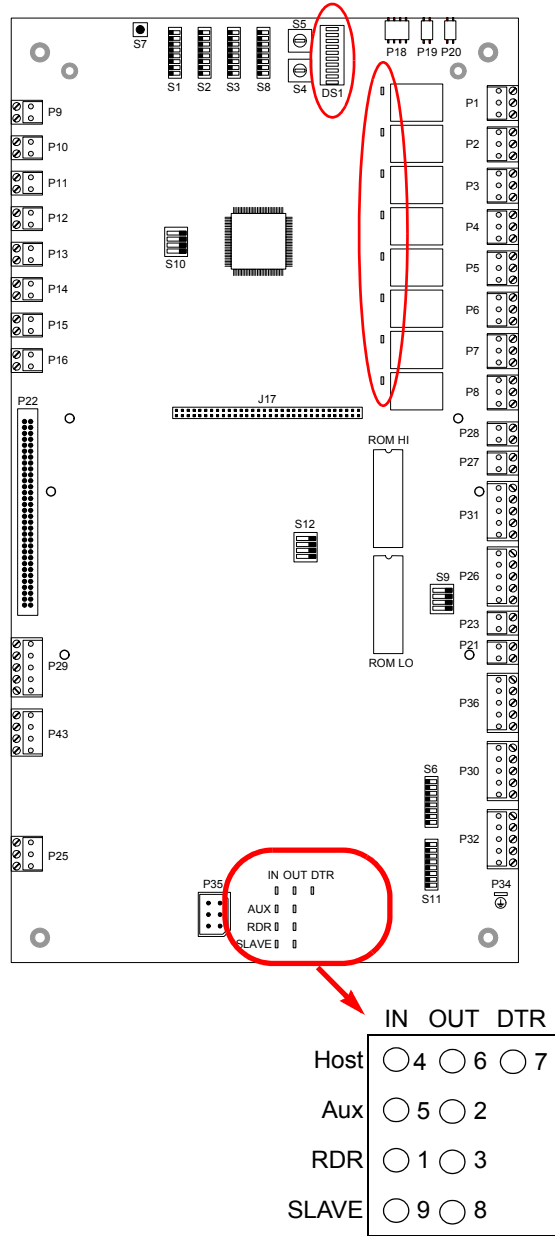

Figure 5.2: Location of apC/8X LEDs
- Communications LEDs indicate when data is transmitted and received from the AUX port, host computer, or reader. These LEDs are located on the bottom right-half of the apC/8X (see Figure 5.2).
The communications LEDs are located on the bottom right half of the apC/8, as shown in Figure 5.2.